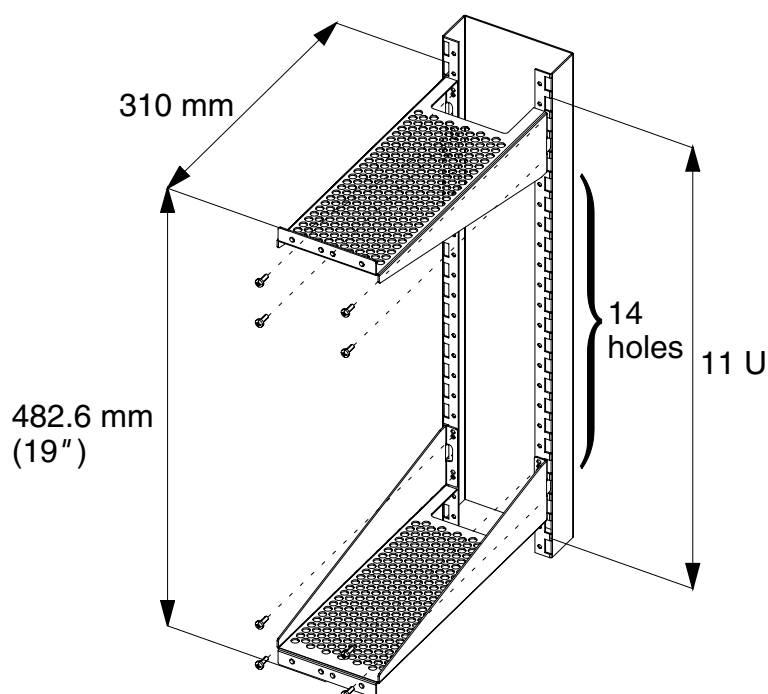

Figure 11. Installing the TM4 mounting adapter
The mounting adapter kit takes 11 U of space in the rack (Figure 11). Two FIU 19 (E) units with 4 - 12 x 2M capacity or one FIU 19 (E) with 16 x 2M capacity can be installed in the adapter kit.
1. Place the upper and lower supports as shown in Figure 11. 14 holes are left between the supports.
4.3.1 FIU 19 (E) with 4 - 12 x 2M capacity (1+0)